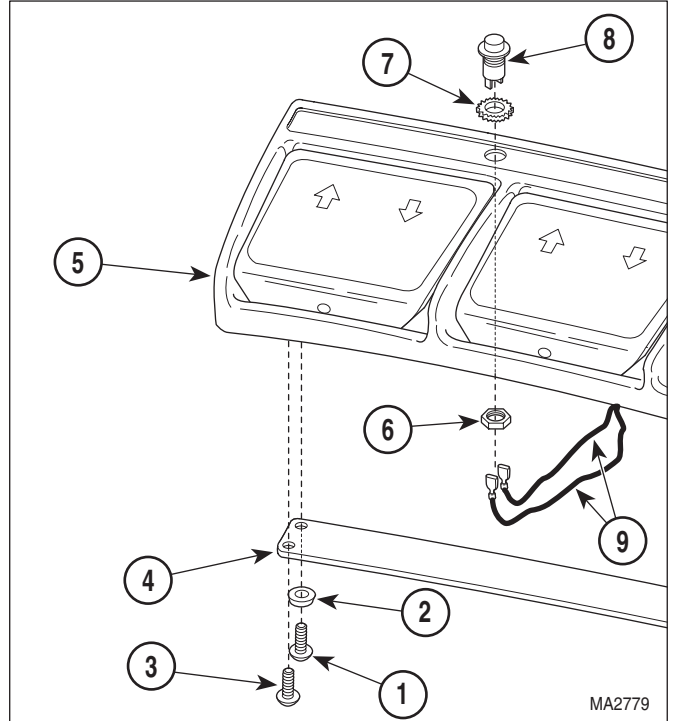

Figure 4-33. Typical Foot Switch Removal / Installation
- (1) Disconnect coil cord of foot control from chair.
- (2) Remove four screws (1, Figure 4-33), four glides (2), three screws (3), and wire channel cover (4) from foot control casting (5).
- (3) Remove nut (6) and lockwasher (7) from foot switch (8).